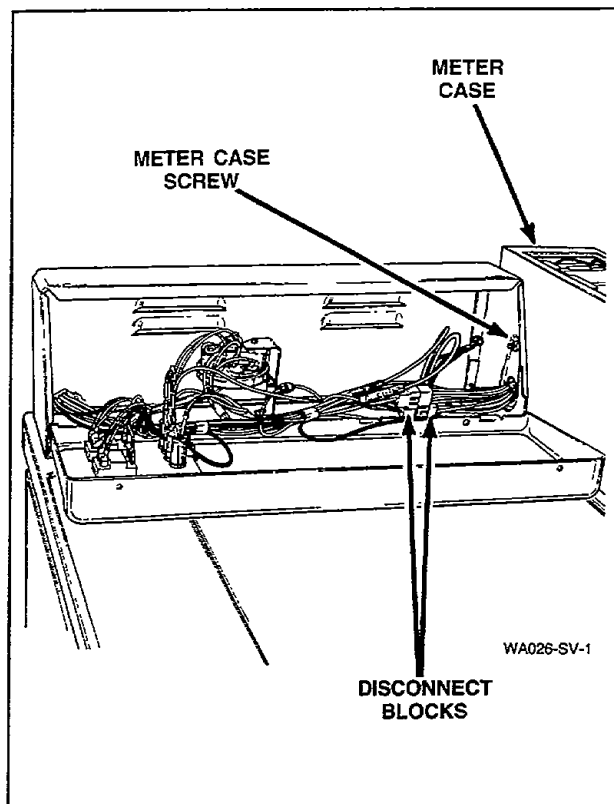

Figure 11
- e. Disconnect timer harness from control hood harness at disconnect blocks, Figure 11.
- g. Remove cap screw, lockwashers and nut holding meter case to end of control hood, Figure 11.